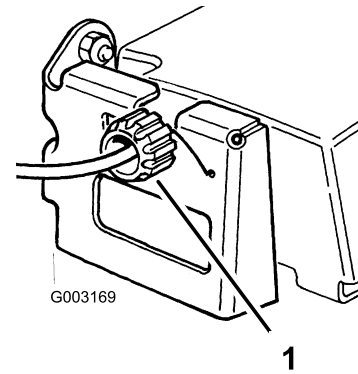

Figure 31
2. Rotate the control knob clockwise a half turn if the lawn mower does not self-propel. If the lawn mower creeps forward, rotate the knob a half turn counterclockwise to loosen the belt (Figure 31).